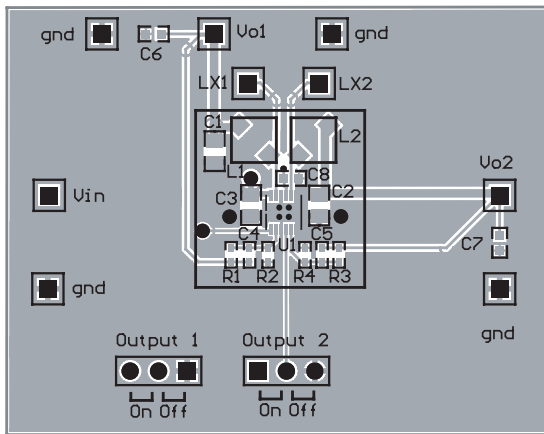

Figure 4: AAT2510 Evaluation Board Top Side.
1. Due to the pin placement of V_{IN} for both converters, proper decoupling is not possible with just one input capacitor. The large input capacitor C3 should connect as closely as possible to V_P and GND, as shown in Figure 4. The additional input bypass capacitor C8 is necessary for proper high frequency decoupling of the second converter.